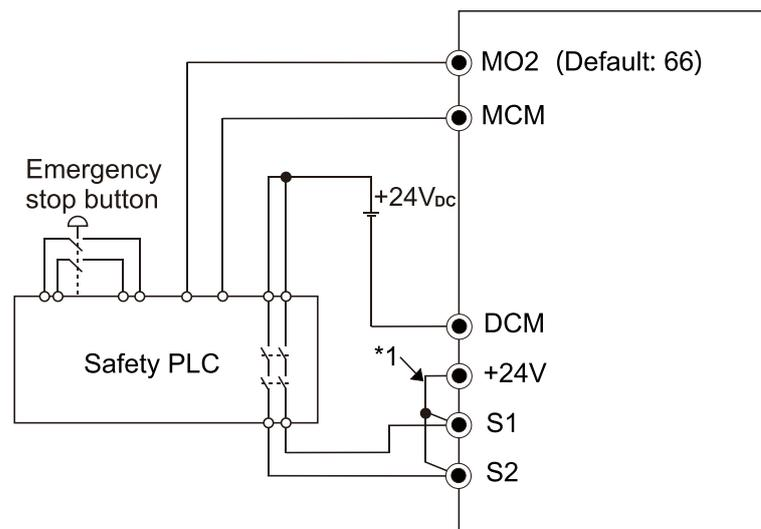

Figure 17-3
2. The wiring is shown in Figure 17-3 below. Normally, you must close the ESTOP contact switch, so the drive can output without displaying an error.